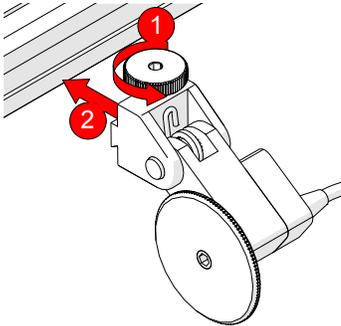

Fig. 35 - Attach to frame bar
1. Loosen the encoder's dovetail jaw and mount it to the frame bar (Fig. 35).